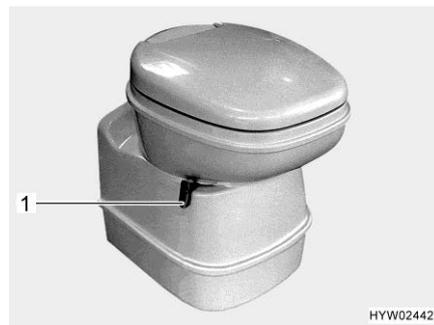

Fig. 180 Thetford toilet bowl, swivelling
- Before flushing open the sliding trap of the Thetford toilet. To do this, push the slide lever (Fig. 180,1) in an anticlockwise direction.